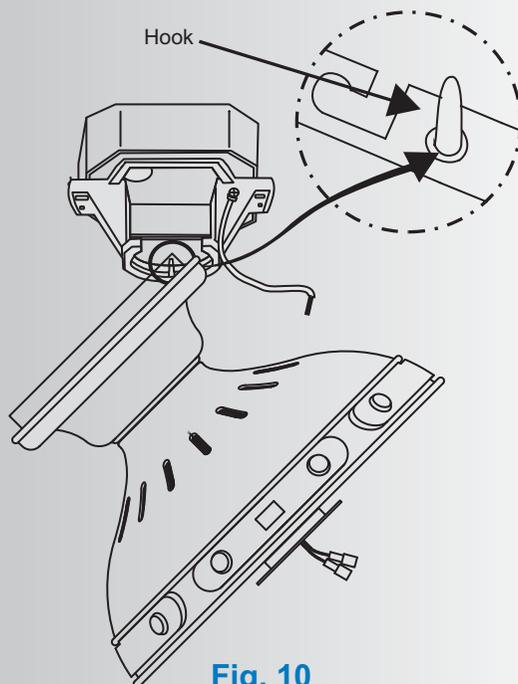

Fig. 10
Step 2. Push the decorative mounting screw cover down and off the canopy letting it rest on top of the motor housing (Fig. 10) and hang the fan on the ceiling mounting bracket by inserting the hook on the inside edge of the ceiling mounting bracket through one of the screw holes in the ceiling canopy (Fig. 10). This will allow you to have both hands free to make the wiring connections.